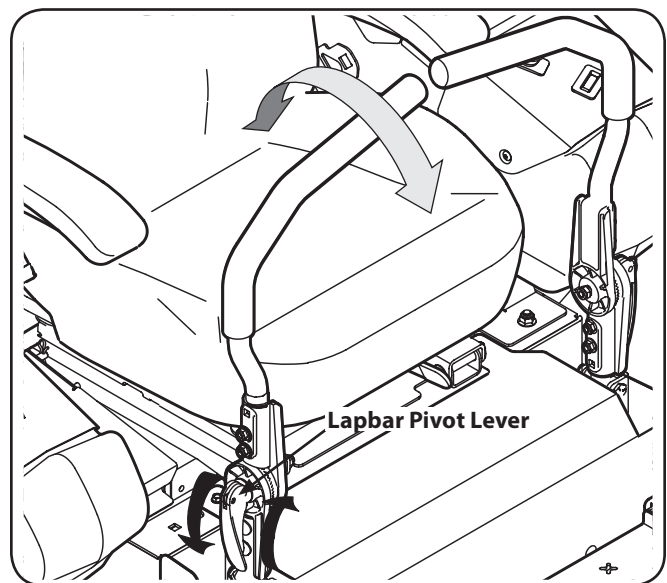

Figure 3-8
1. Lift up on the lapbar pivot lever to unlock the drive control levers. See Fig. 3-8.